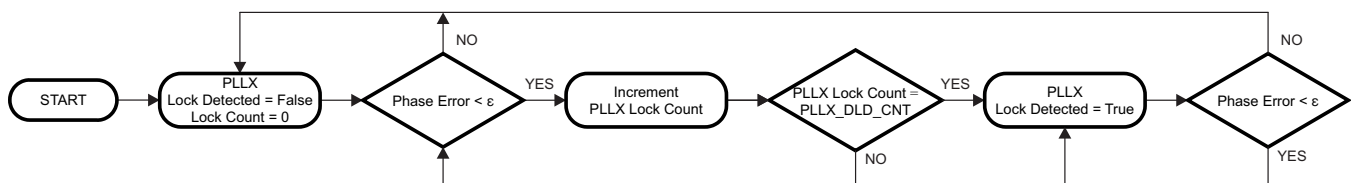

Figure 12. Digital Lock Detect Flowchart
Both PLL1 and PLL2 support digital lock detect. Digital lock detect compares the phase between the reference path (R) and the feedback path (N) of the PLL. When the time error, which is phase error, between the two signals is less than a specified window size (ϵ) a lock detect count increments. When the lock detect count reaches a user specified value lock detect is asserted true. Once digital lock detect is true, a single-phase comparison outside the specified window causes digital lock detect to be asserted false. This is shown in Figure 12.